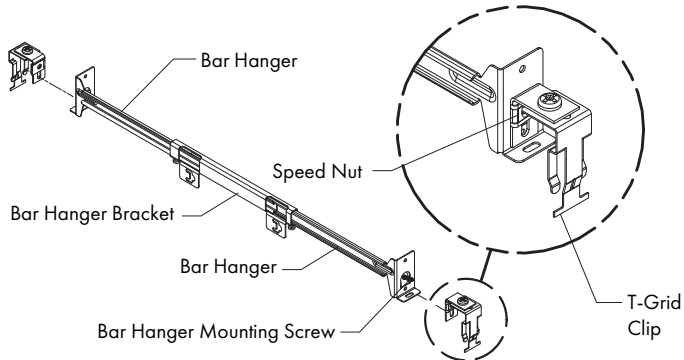

FIG 5.1 Attach T-Grid Clip assemblies to Hanger Bracket Assemblies
STEP 1 Pre-assemble T-Grid Clips to Bar Hangers & tighten Bar Hanger Mounting Screws just enough to allow for vertical adjustment of Hanger Bracket - **FIG 5.1**.